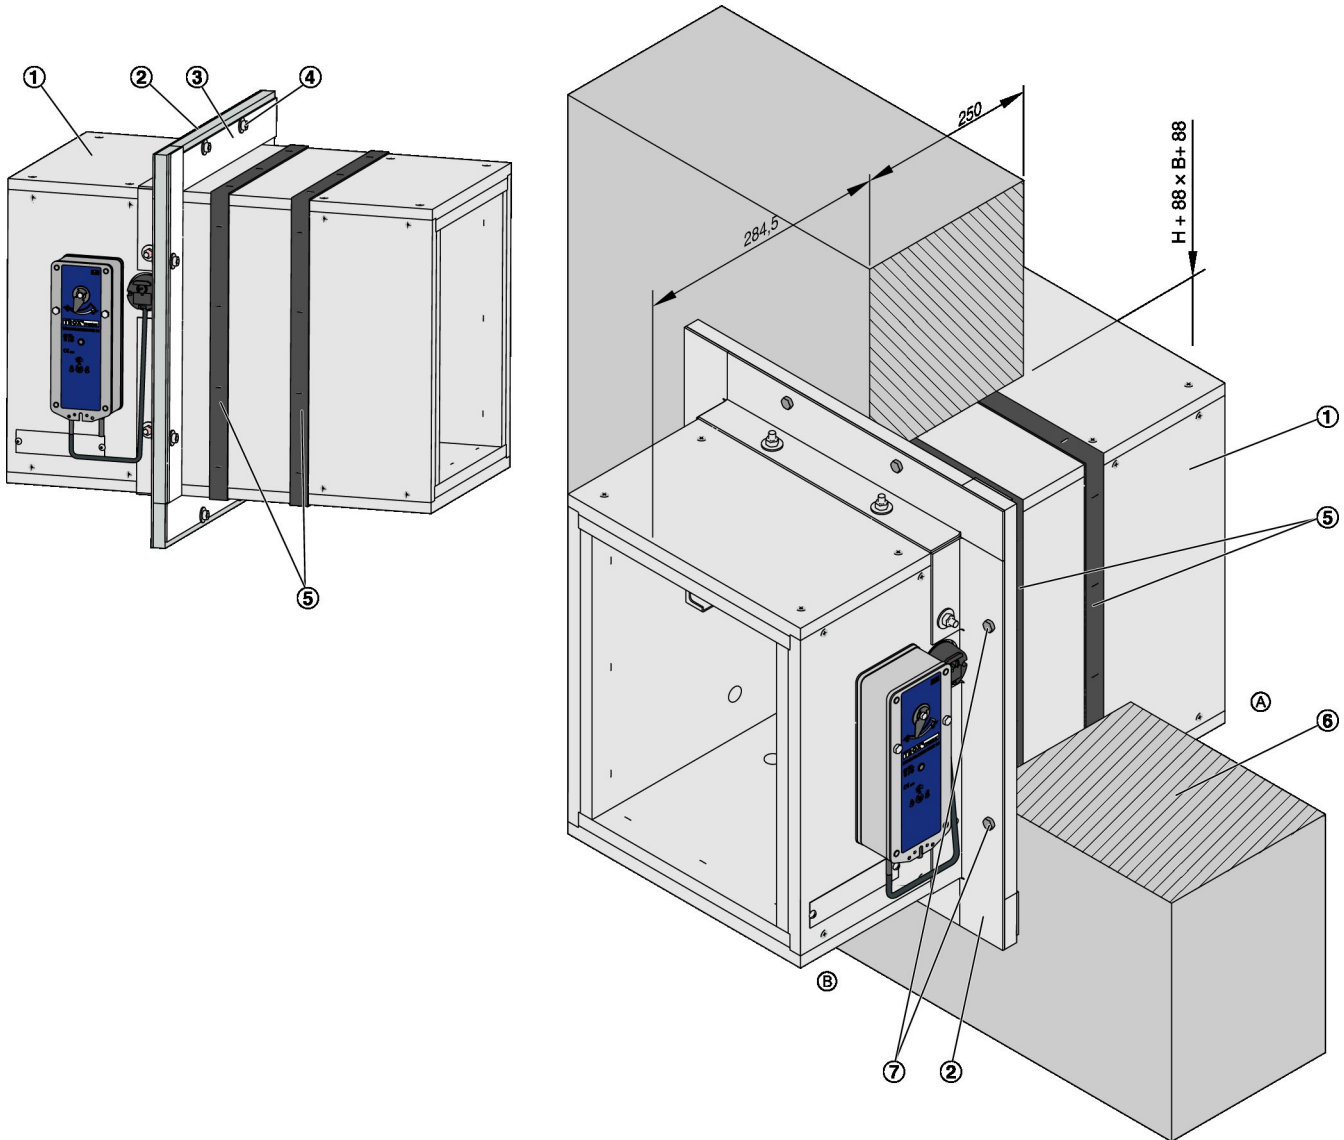

Fig. 5: Installation into a solid wall
- 3. ▶ Remove the sealing strip fixing screws that were used during transport (Fig. 5 /4).
- 5. ▶ Screw-fix the fire damper with anchors and M8 screws, or with M8 fixing tabs (Fig. 5 /7).